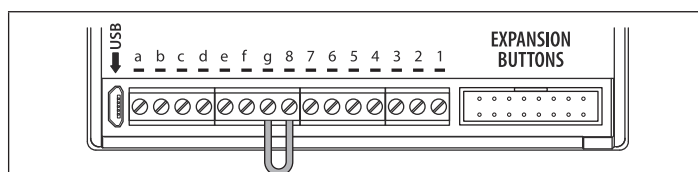

Fig. 59
2. Put a short across terminals **g** & **8** on the back of the GSM module, as shown in **Fig.59**.